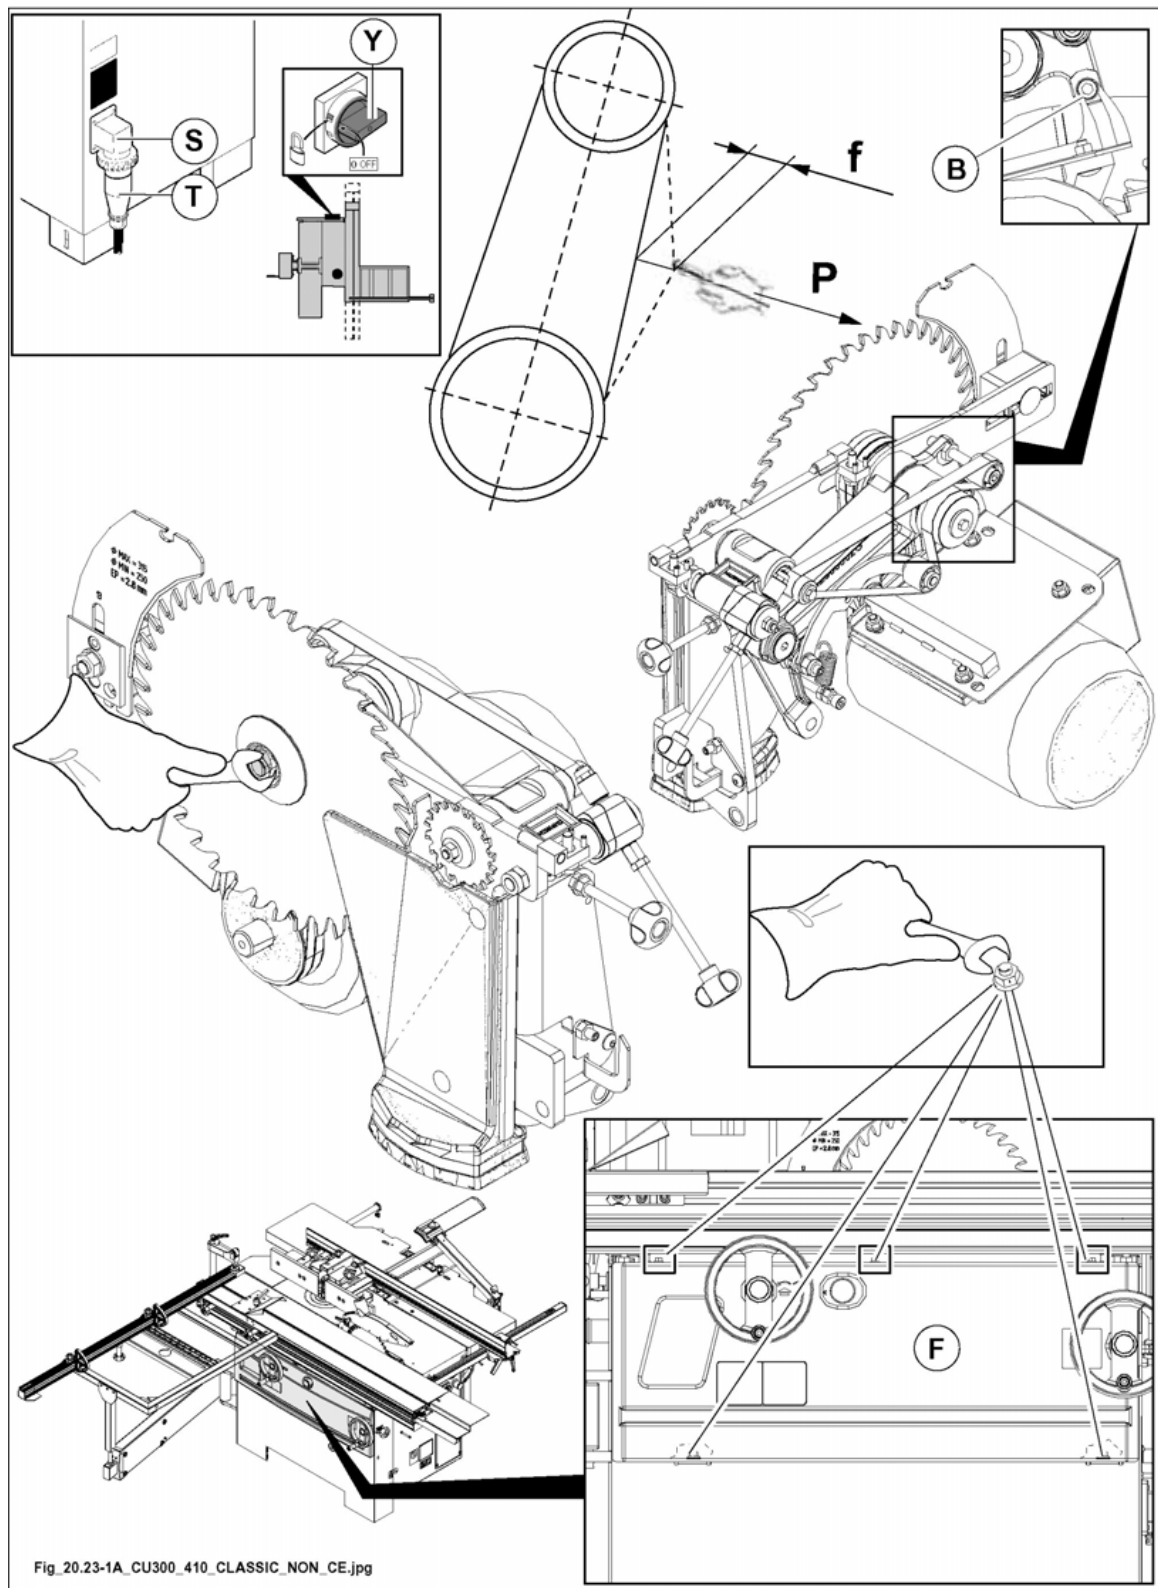

Fig. 20.23-1-A
U.S.A. and CANADA version: before carrying out maintenance operations, adjustments or to dismount any machine member turn main switch (Y fig. 20.23-1-A) to 0, lock it then indicate this with a sign.
- Disassemble the front guard (F fig. 20.23-1-A).
- Loosen the screw (B fig. 20.23-1-A).
- Push the motor downwards and tighten the screw (B fig. 20.23-1-A).
- Fit the front guard (F fig. 20.23-1-A).